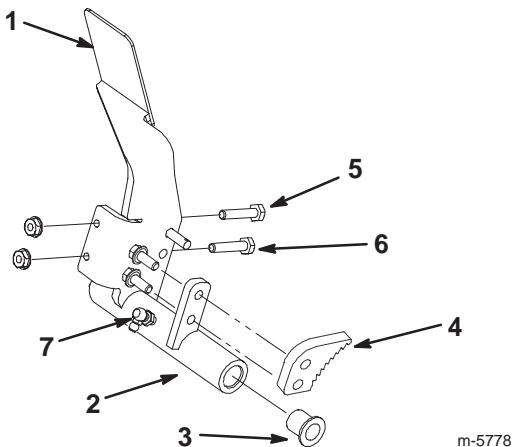

Figure 2
6. Remove the brake pawl from the old accelerator pedal (Fig. 2).
7. Install the brake pawl on the new accelerator pedal (Fig. 2). Use red Locktite 272 or equivalent on the bolts.
8. Measure the height of the stop bolt on the old accelerator pedal (from the back of the pedal to the top of the bolt head) and then remove it and the start switch bolt, discarding the rest of the accelerator pedal assembly (Fig. 2).
9. Install the stop bolt and nut on the new accelerator pedal, adjusting it to the same height it was set to on the old pedal (Fig. 2), but do not tighten the jam nut.
10. Loosely install the start switch bolt (Fig. 2), but do not tighten the jam nut.
11. Install a new grease fitting into the accelerator pedal mounting tube (Fig. 2).
12. Install 2 bushings into the ends of the mounting tube of the new accelerator pedal (Fig. 2).